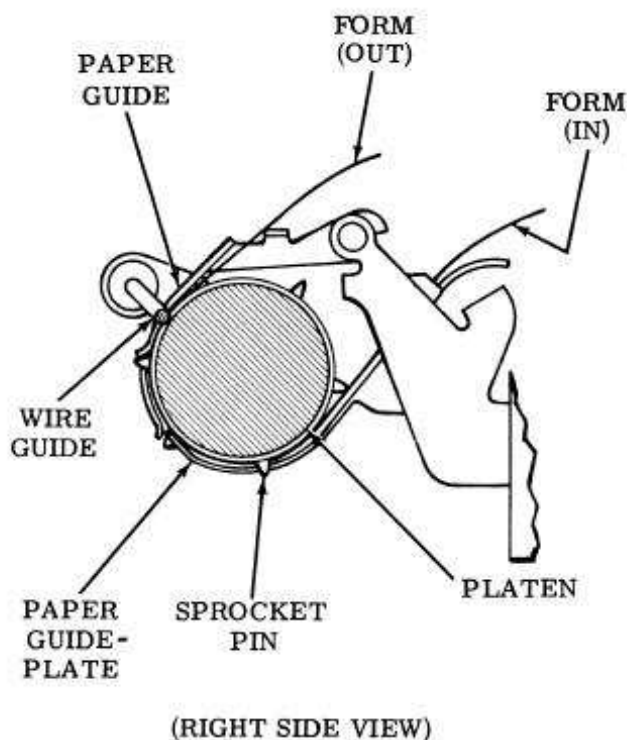

Figure 7 - Form Threading — Sprocket Feed
3.18 Figure 7 illustrates form threading for a sprocket feed typing unit.